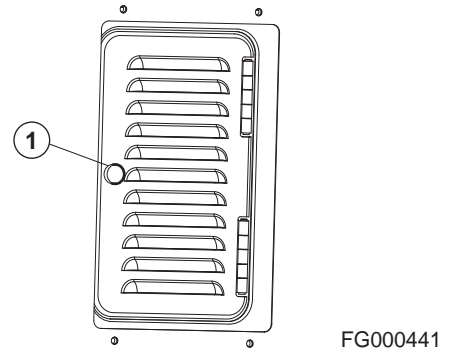

Figure 92
2. Open the cover by unscrewing the knob (1, Figure 92) in the rear of the cabin.